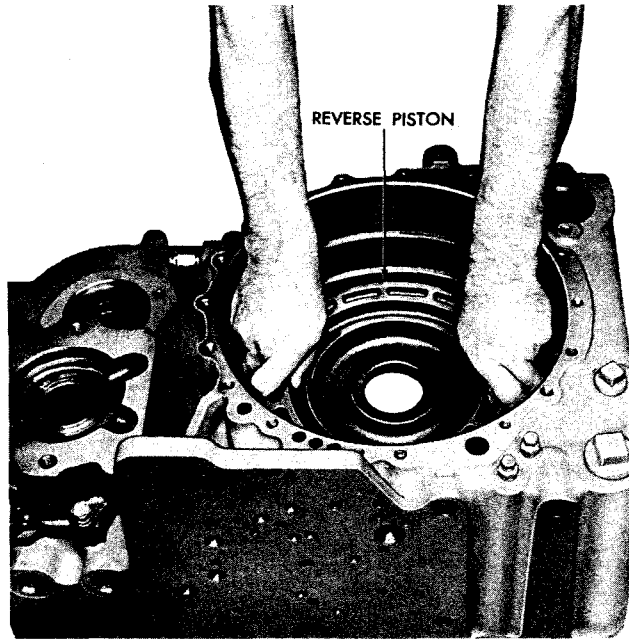

Fig. 5-46. Removing reverse clutch piston assembly (-3 model)
(3) Remove the reverse planetary carrier assembly and one clutch plate as a unit. Separate the clutch plate from the planetary carrier. Refer to paragraph 6-12 for rebuild of the planetary carrier assembly.
(4) Remove the five external-tanged clutch plates 6 (B, foldout 8) and four internal-splined clutch plates 7 from the transmission.
(5) Remove the reverse clutch piston assembly (fig. 5-46). Refer to paragraph 6-11 for rebuild of the clutch piston.